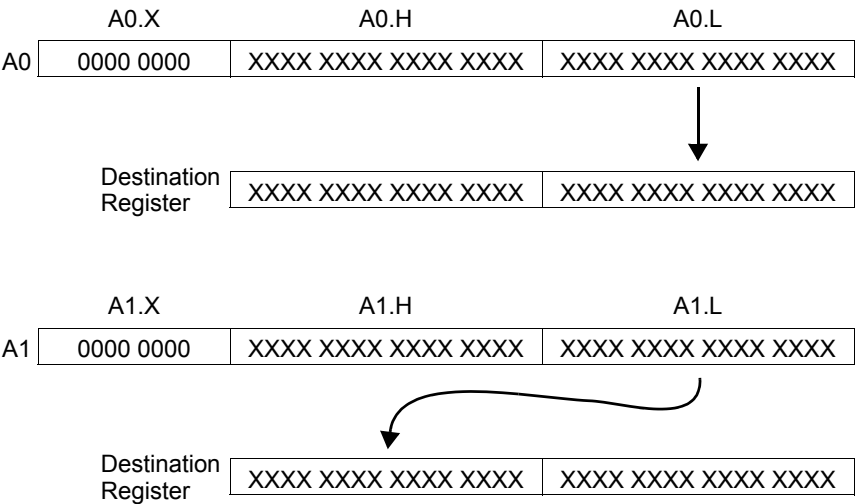

Figure 2-16. Multiplication of Integer Operands
- If the multiplication uses integer operands, then the low half of the result is extracted and stored in the 16-bit destination registers. These extractions provide the most useful information in the resultant 16-bit word for the data type chosen (see Figure 2-16 on page 2-49).